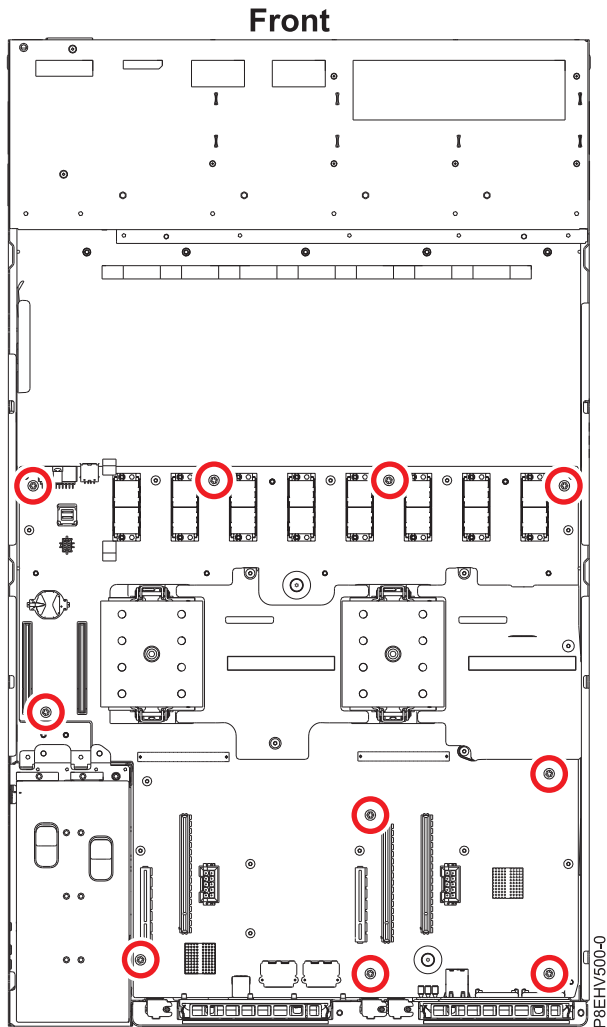

Figure 67. System backplane screw locations
4. Align and screw the 10 black hex screws **(B)** into the system backplane. The screw locations are shown in Figure 67 on page 68.